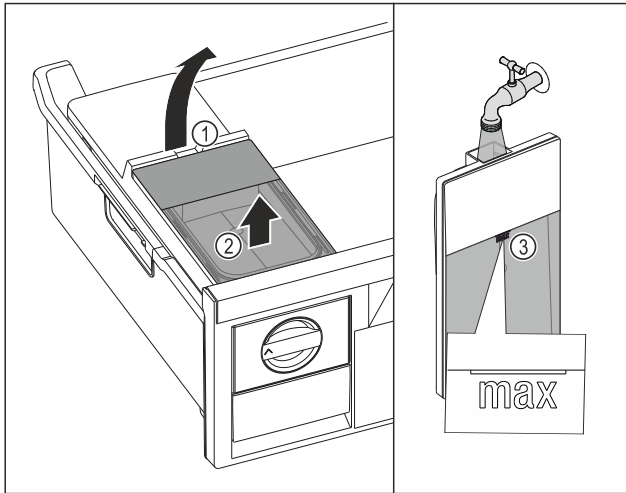

Fig. 124
- ▶ Lift the water tank at the recess Fig. 124 (1).
- ▶ Remove the water tank by lifting it upwards. Fig. 124 (2)
- ▶ Fill the water tank with drinking water up to the mark Fig. 124 (3).